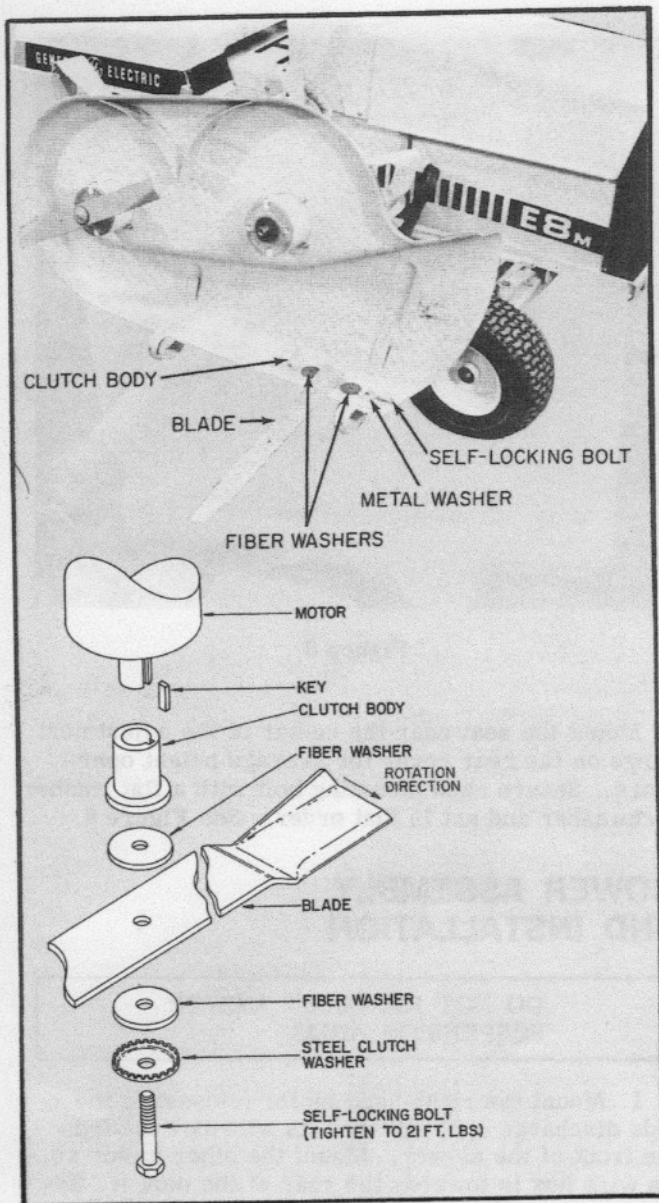
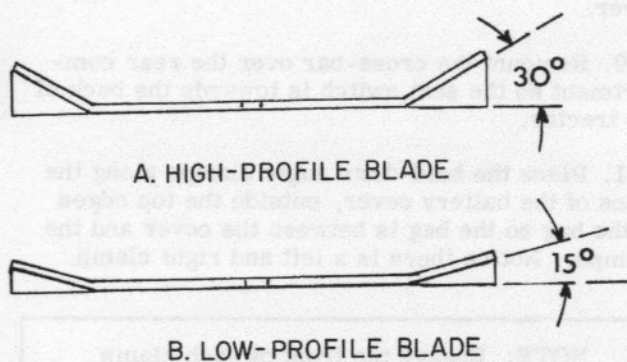

Figure 9
Figure 11
1. Mount the right-hand motor (closest to the side discharge opening) with its wire box towards the front of the mower. Mount the other motor so its wire box is towards the rear of the mower. Secure each motor with four screws, lockwashers, and nuts with the screw heads on the top side of the deck. (See Figure 9.)
4. Install the clutch and blade assemblies. Model E8HM tractors are supplied with 2 sets of blades. The high-profile blades give a high discharge velocity, and the low profile blades give extended mowing range with lower discharge velocity. Install in like pairs only. See Figure 11. Observe the blade placement so the cutting edge is in the proper direction for rotation. Tighten each self-locking cap screw to approximately 21 foot-pounds of torque. Make sure the square key stays in place when installing each clutch hub. (See Figure 9.)